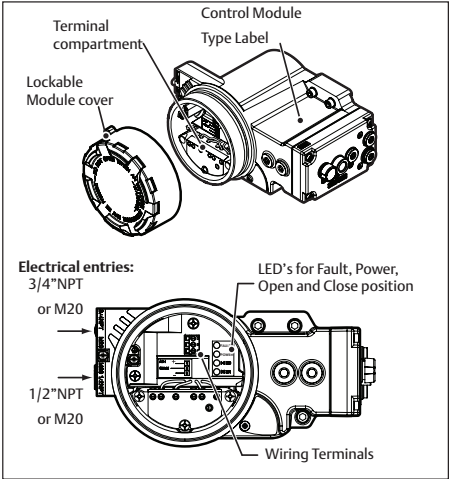

Fig.4.2 Terminal connections behind cover.
- 1 Remove Control Module cover (see figure 4.2).
- 4 Mount the function module cover to the housing (see figure 4.2) or continue with chapter 5. Take care that the cover seal is in place to comply to dust and water tightness according to IP66 / NEMA4X.